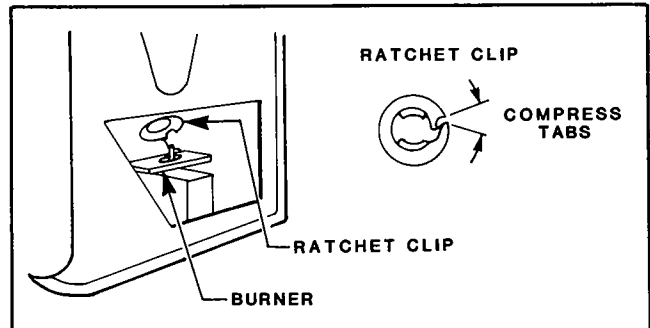

Figure 56. Burner Clip
2. Rotate the ratchet clip holding the burner in place until tabs are accessible. Compress the tabs and slip off the burner mounting pin (figure 56).